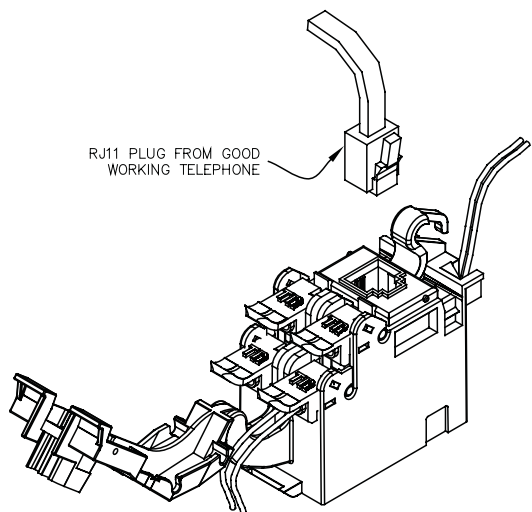

Figure 4
2. Using a working telephone, insert the telephone RJ-11 plug into the customer test jack (See Figure 4).